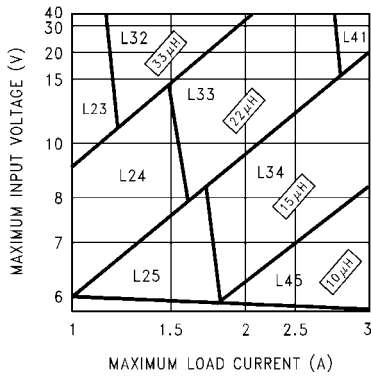
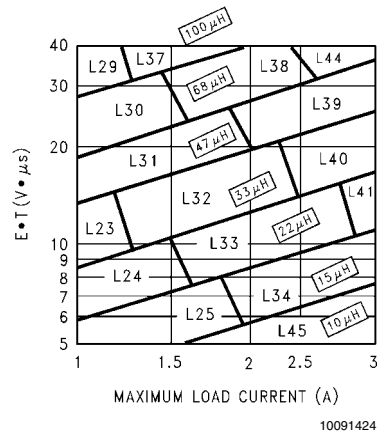

FIGURE 3. LM2676-3.3
FIGURE 6. LM2676-ADJ
**Step 3:** Determine the inductor required by using one of the four nomographs, *Figure 3* through *Figure 6*. Table 1 provides a specific manufacturer and part number for the inductor.
**Step 5:** Determine an input capacitor from Table 4 for fixed output voltage applications. Use Table 2 to find the specific capacitor type. For adjustable output circuits select a capacitor from Table 2 with a sufficient working voltage (WV) rating greater than  $V_{in\ max}$ , and an rms current rating greater than one-half the maximum load current (2 or more capacitors in parallel may be required).
**Step 3:** Use the nomograph for the 3.3V device, *Figure 3*. The intersection of the 16V horizontal line ( $V_{in\ max}$ ) and the 2.5A vertical line ( $I_{load\ max}$ ) indicates that L33, a 22 $\mu$ H inductor, is required.
**Step 3:** To use the nomograph for the adjustable device, *Figure 6*, requires a calculation of the inductor Volt $\cdot$ microsecond constant ( $E \cdot T$  expressed in V $\cdot$  $\mu$ s) from the following formula:
Using *Figure 6*, the intersection of 27V $\cdot$  $\mu$ s horizontally and the 2A vertical line ( $I_{load\ max}$ ) indicates that L38, a 68 $\mu$ H inductor, should be used.
**Important Note:** When using the adjustable device in low voltage applications (less than 3V output), if the nomograph, Figure 6, selects an inductance of 22 $\mu$ H or less, Table 6 does not provide an output capacitor solution. With these conditions the number of output capacitors required for stable operation becomes impractical. It is recommended to use either a 33 $\mu$ H or 47 $\mu$ H inductor and the output capacitors from Table 6.